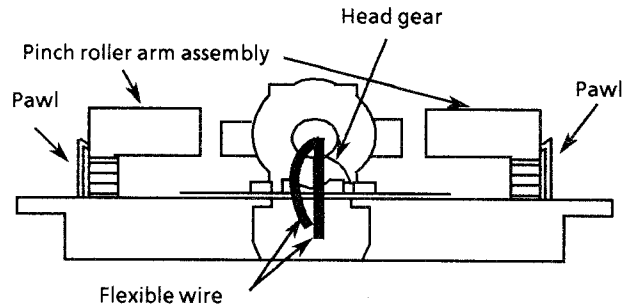

Figure 9 Bottom view of the cassette mechanism
2. Remove the hook fixing the pinch roller assembly, and remove the pinch roller assembly (Figure 9).